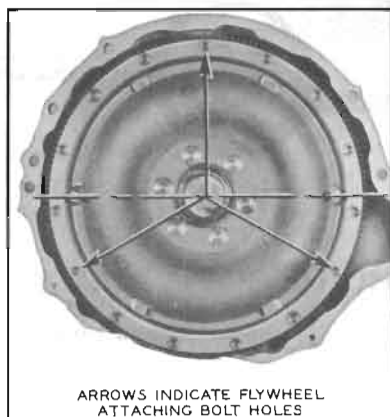

Figure 5-107—Location of Driving Bolt Holes
17. Looking at front face, turn converter pump cover so that drain plugs are horizontally aligned with seven bolt holes above a line through the plugs and eight below. In this position, the top center hole is a driving bolt hole as is the fifth hole from the top in either direction. Mark these holes for later installation of the flywheel-to-pump driving bolts. See figure 5-107.